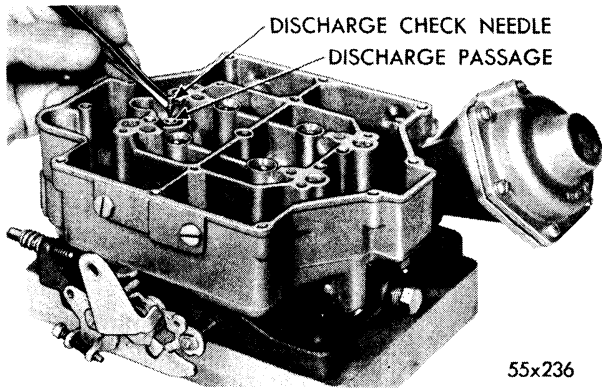

Fig. 23—Installing Accelerator Pump Discharge Check Needle
- (1) Install the accelerator pump discharge check needle in the discharge passage as shown in Figure 23.